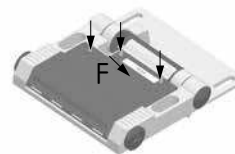

Fig. 4
- Uniformly tighten the 3 cover screws (Fig. 4) with 0.6 Nm tightening torque.